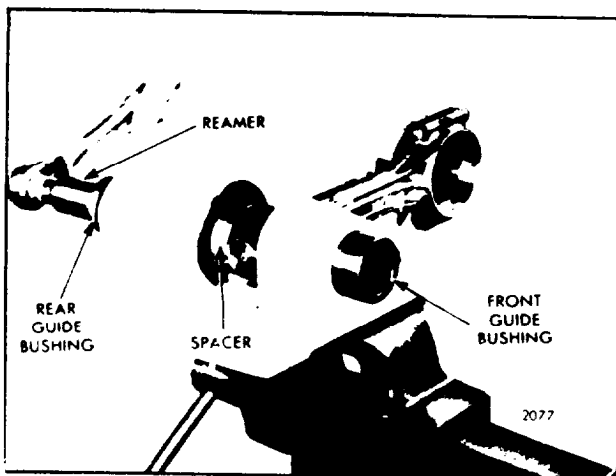

Fig. 8 - Reaming Bushings
- c. Place the crankshaft end of the connecting rod on the arbor of the fixture (Fig. 8). Tighten the nuts on the 3/8"-24 bolts (In-line engines) to 40-45 lb-ft torque.